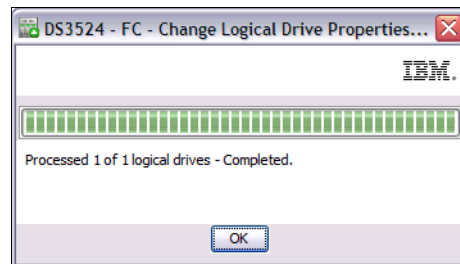

Figure 9-27 Change Modification priority - Completed
4. You will then see the completion window as shown in Figure 9-27